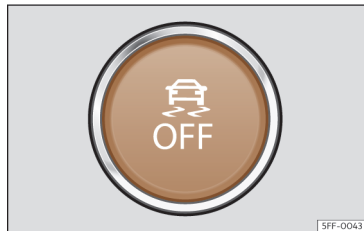

Fig. 172 In the lower part of the centre console: button to switch the ESC off/on
- In "Sport" mode, the ESC can be switched off and on by briefly pressing the  button on the centre console»» **Fig. 172**.
- The ESC can be switched on and off by briefly pressing the  button on the centre console»» **Fig. 172**.